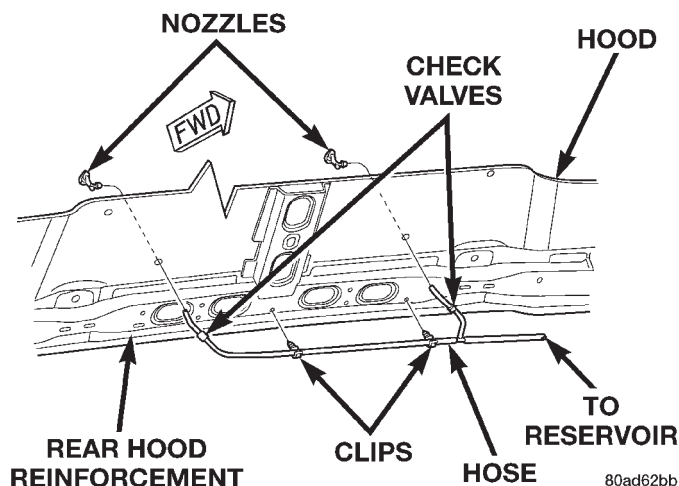

Fig. 18 Front Washer Nozzles Remove/Install
(1) Open and support the hood.
(2) From under the rear of the hood, disconnect the washer supply hose from the barbed nipple of the washer nozzle (Fig. 18).